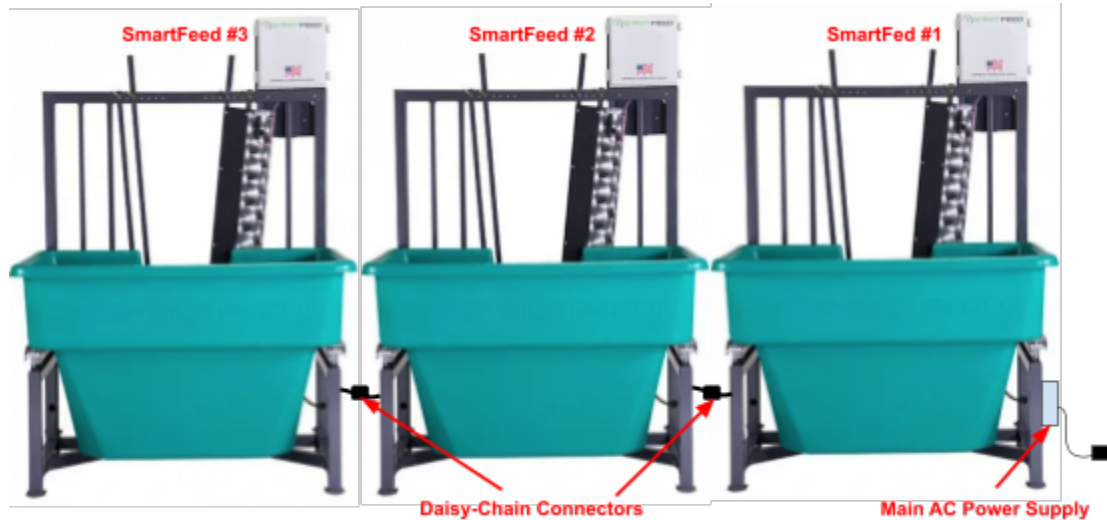

Figure 2) Daisy-Chained SmartFeeds with Main AC Power on Far Right
- Multiple SmartFeed systems can be connected together - referred to as "daisy-chaining". To do this, each subsequent SmartFeed bunk must be placed on the left side of the previous bunk. See Figure 2 below.